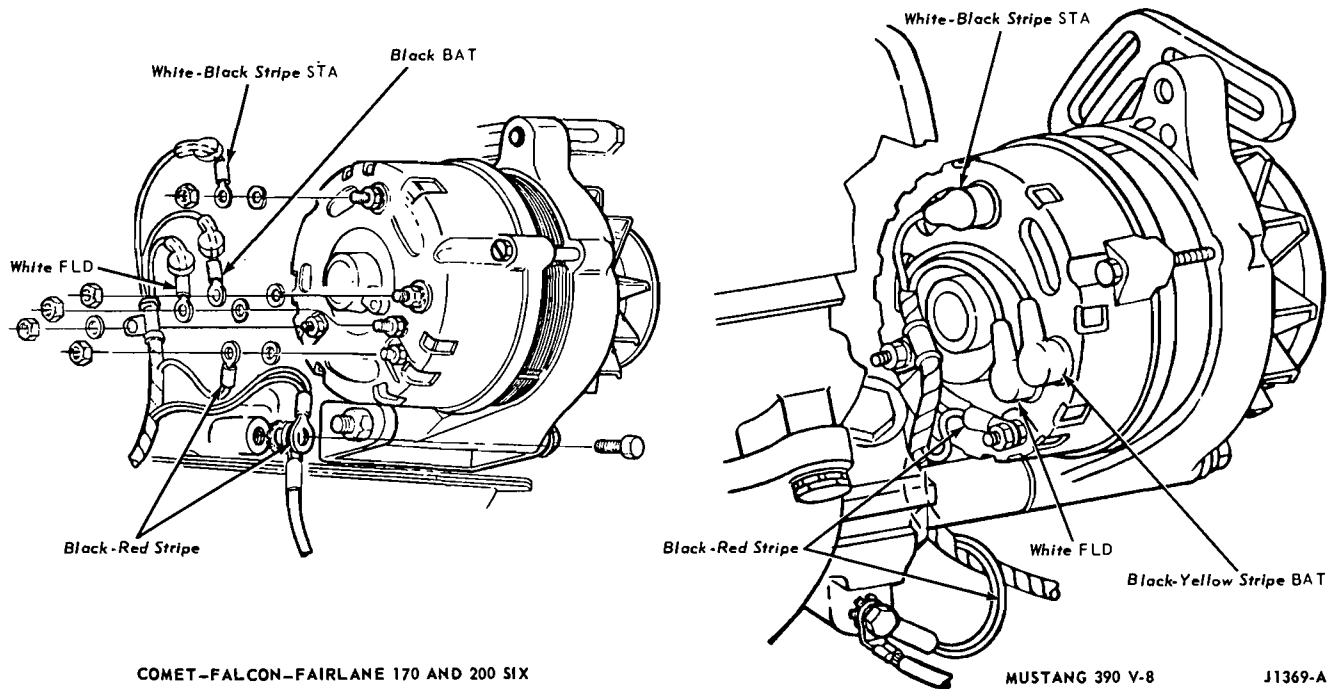

FIG. 1—Mercury Intermediate, Falcon, Fairlane 170 and 200 Six and Mustang 390 V-8 Alternator Connections
1. Attach the alternator wiring harness (Fig. 1 or 2). Position the alternator to the engine, and install the alternator mounting bolt finger-tight.